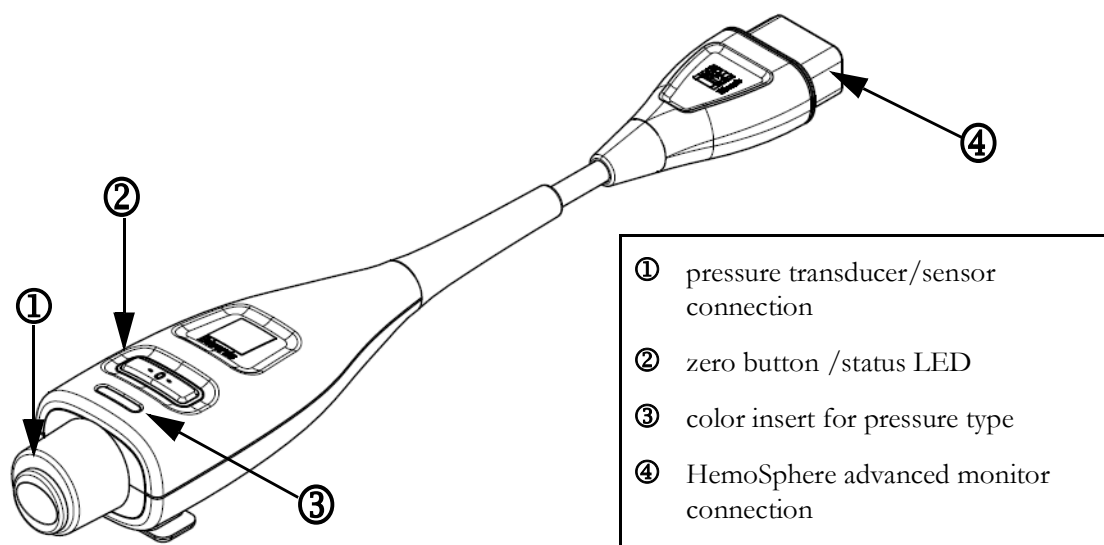

Figure 10-1 HemoSphere pressure cable
The HemoSphere pressure cable is a reusable device that connects with the HemoSphere monitor on one end ④ and any approved single Edwards disposable pressure transducer (DPT) or sensor on the other end ①. See figure 10-1 on page 165. The HemoSphere pressure cable acquires and processes a single pressure signal from a compatible Edwards DPT, such as the TruWave DPT, or a FloTrac sensor. A FloTrac or Acumen IQ sensor connects to an existing arterial catheter to provide minimally invasive hemodynamic parameters. A TruWave transducer can connect to any compatible pressure monitoring catheter to provide location based intravascular pressure. Refer to the directions for use provided with each catheter for specific instructions on catheter placement and use, and for relevant warnings, cautions and notes. The HemoSphere pressure cable can be monitored through two technology monitoring modes based on the paired sensor/transducer: **FloTrac** or **Acumen IQ** sensor monitoring mode or **Swan-Ganz** catheter monitoring mode. The monitoring mode appears on the top of the navigation bar (see figure 5-2 on page 83). The appearance and connection points for the HemoSphere pressure cable are shown in figure 10-1.
Pressure Type Color Insert. If desired, the appropriate color insert can be used on the pressure cable to indicate the monitored pressure type. See ③ in figure 10-1 below. The colors are as follows:
- Red for arterial pressure (AP)
- Green for cardiac output (CO)
- 7 Use a straight in or out motion to connect the green connector of the primed FloTrac sensor. The pressure cable LED that surrounds the zero button (see ② in figure 10-1) will flash green indicating that the pressure sensor is detected. A yellow light indicates a fault condition. If this occurs refer to the status bar for specific fault condition details.
Press the physical zero button  directly on the pressure cable and hold for three seconds (see figure 10-1).